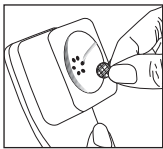
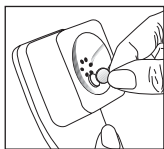

Figure 2
Figure 3
3. Place the double-sided tape in this optimal position on the telephone receiver (figure 2) and attach the magnet to the tape (figure 3).